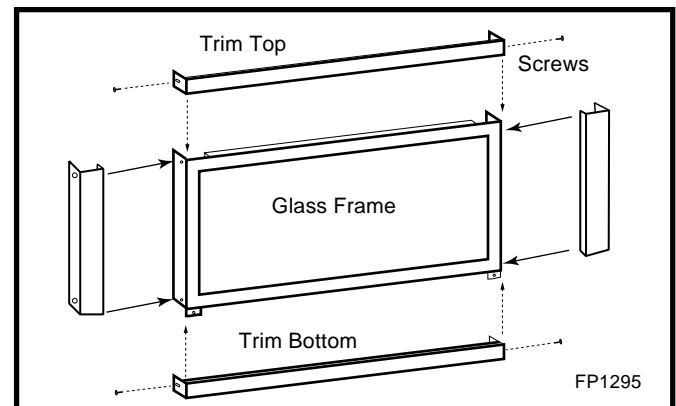
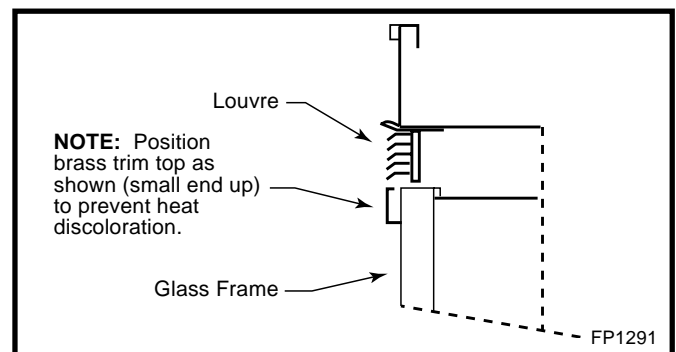

Fig. 59 Install support window trim channel and top and bottom brass trim.
Fig. 60 Position brass trim to with small end up.
2. Install top and bottom brass trim (Fig. 59 & Fig. 60) Use the shortest black screw.